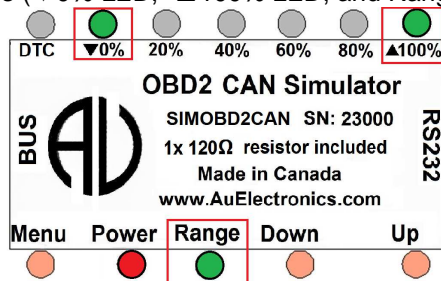

Figure 3-9
- When CAN bus is off, three LEDs (▼0% LED, ▲100% LED, and Range LED) blinks, as shown in Figure 3-9.